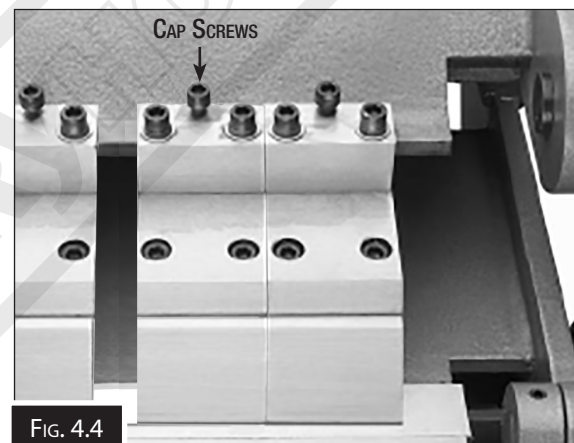

FIG. 4.4
2. Align the remaining fingers and secure them by tightening the cap screws. (Fig. 4.4)